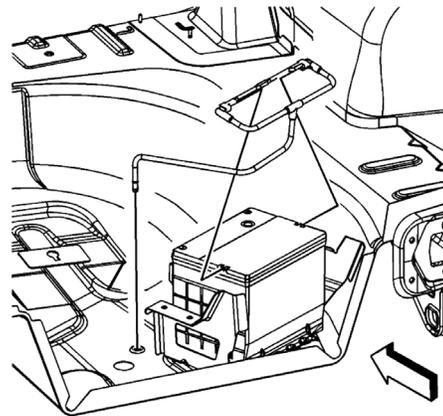

Fig. 3 Battery vent tube
14. Remove battery vent tube from battery and grommet, **Fig. 3**.